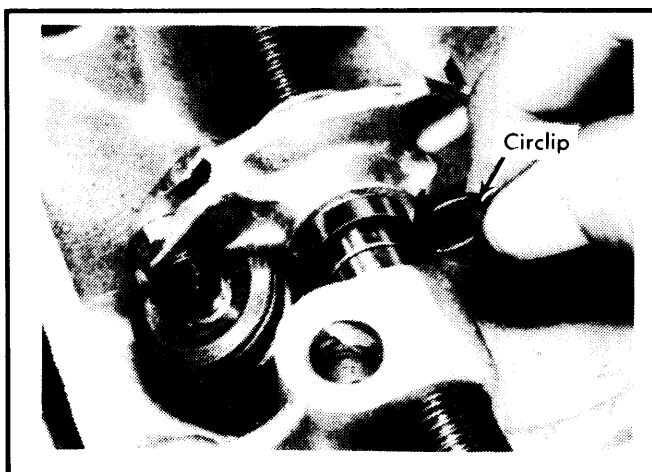

Fig. 4 Rocker Shaft Circlip Removal & Installation
**Removal** – 1) With camshaft removed, push back thrust ring and rocker arm so rocker shaft circlip may be removed (See Fig. 4). Remove distributor mounting flange.